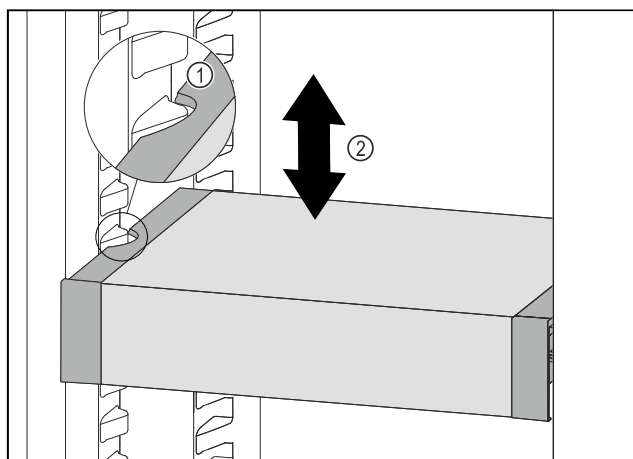

Fig. 57
- ▶ Pull VarioSafe forwards until the recesses in the side of the VarioSafe are at the level of the support rib in the refrigerator compartment. Fig. 57 (1)
- ▶ Move VarioSafe up or down in the refrigerator compartment until the desired height is reached. Fig. 57 (2)